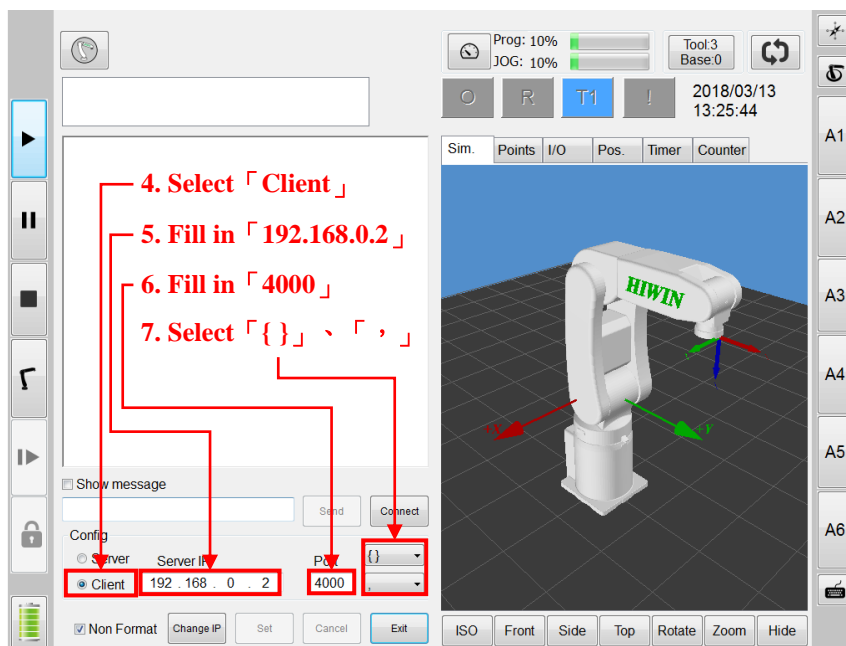

Figure 10-2 Robot arm communication setting interface
2. As shown in Figure 10-2, select "Client" to set the robot arm as the client.